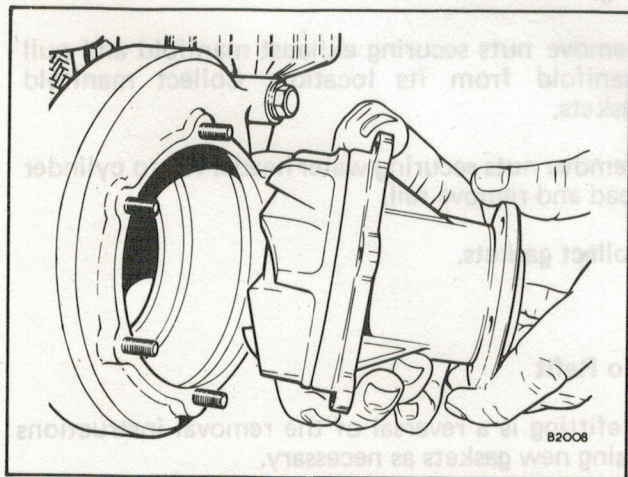

Fig. 3
**Note:** If desired, the pump rotating assembly may be separated from the pump body leaving the body undisturbed on the engine, Fig. 3.